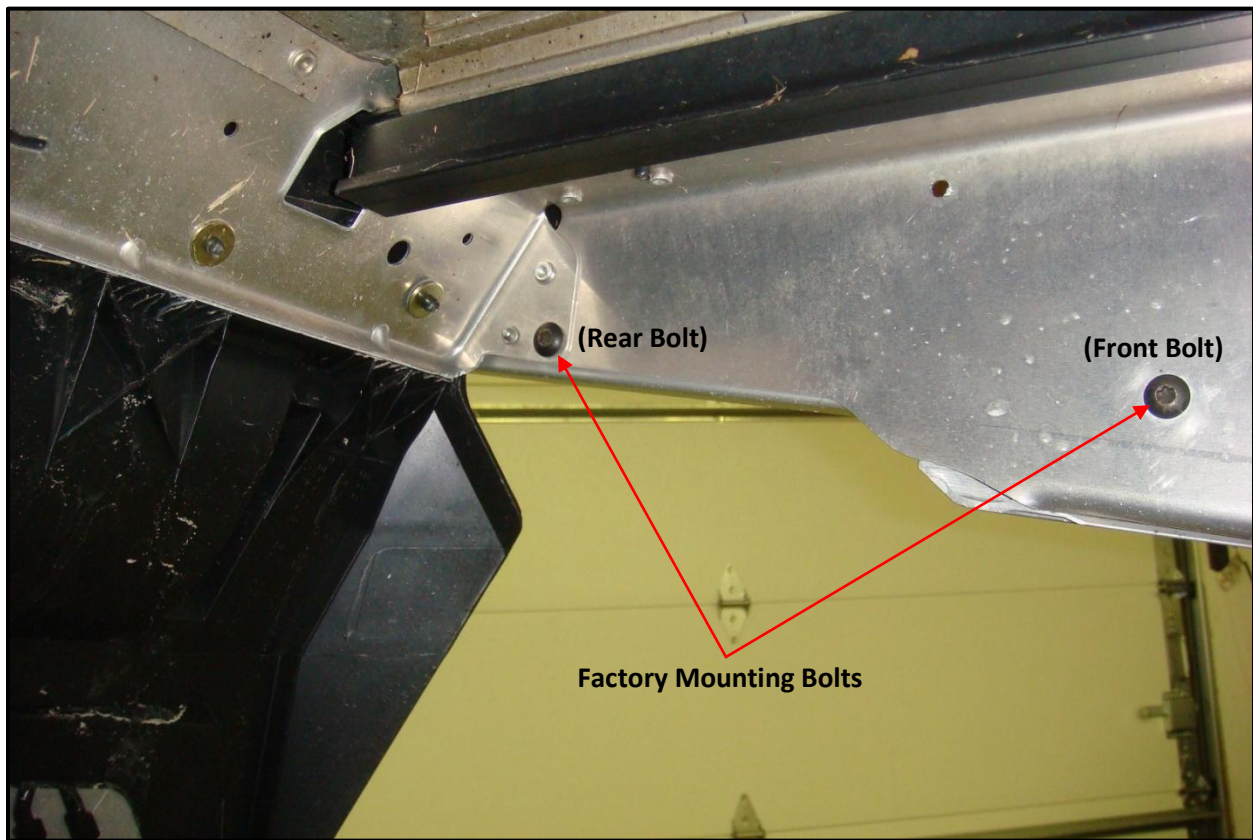

Figure 2 –Rear handle mounting bolts (LH side shown)
3. On the LH side of the sled, locate the two mounting screws on the inside of the tunnel that are used to secure the rear handle in place (Figure 2). Note: Model years 2008-2009 will have flange hex head bolts in these locations, while model years 2010-2012 will have pan head Torx screws as shown in Figure 2.